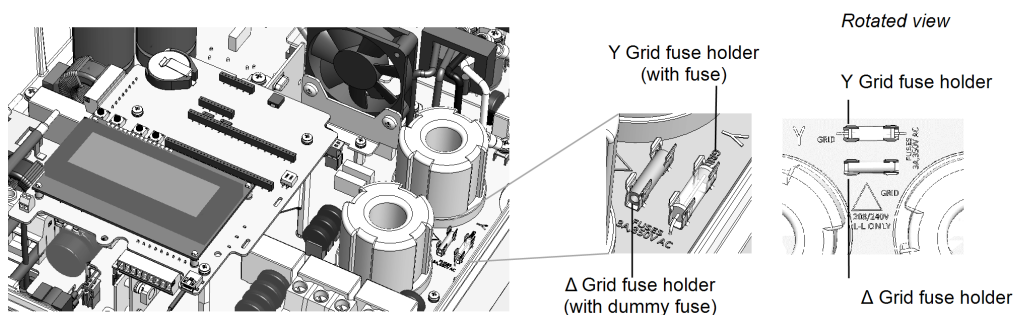

Figure 2: Fuse locations and markings
The position of the fuse configures the AC grid connection: 4-wire (3 Lines/PE/N) or 3-wire (3 Lines/ PE) grid connection. By default, the fuse is located in the 4-wire fuse holder of the inverter, and in the 3-wire fuse holder there is a plastic dummy fuse. To set the inverter for 3-wire grid connection, you must move the fuse from the 4-wire fuse holder, marked as Y GRID, to the 3-wire fuse holder, marked as Δ GRID (see Figure 2).
2. Identify the fuse locations and the markings as described in Figure 2.